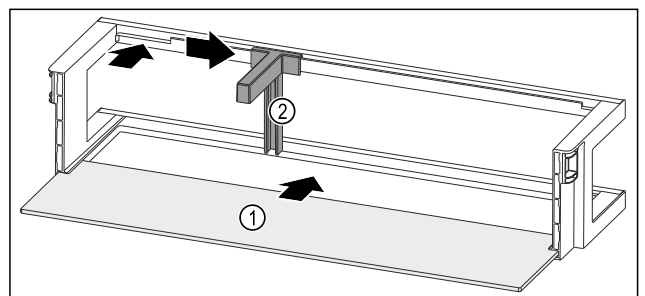

Fig. 166 Door rack with shelf
- ▶ Push the shelf Fig. 166 (1) into the side recesses.
- ▶ Insert the bottle holder Fig. 166 (2) in the recess.
- ▶ Push the bottle holder Fig. 166 (2) to the desired position to the side.